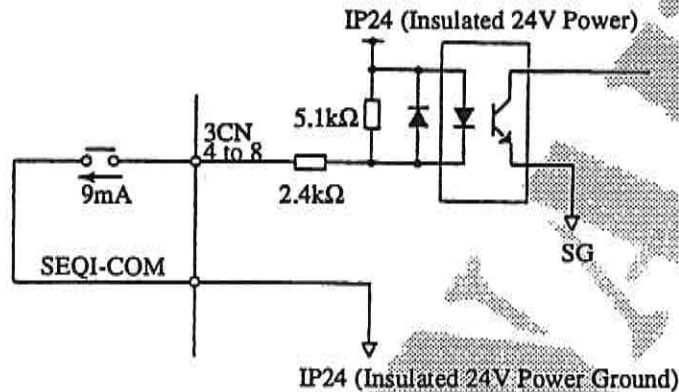

Fig. 5.5 Input Interface Circuit
- (2) Contact point capacity must be at least 30V, 10mA.
- (3) The input filter has a signal delay of about 5ms.
- (4) Input circuits are shown in Figure 5.5 and the signals are defined in Table 5.6.